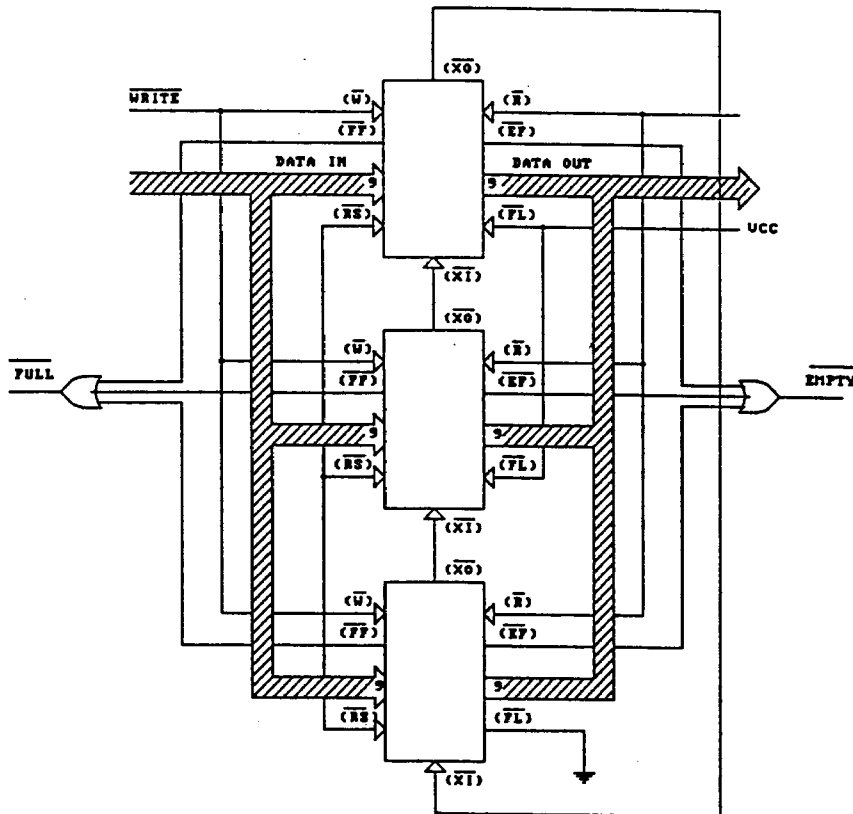

Figure 3. Block Diagram using FIFO's in Depth Expansion Mode
- The first device of the Daisy Chain is established by grounding the First Load (FL) control pin.
- The Expansion Out Pin ( $\overline{\text{XO}}$ ) of each device must be connected to the Expansion In Pin ( $\overline{\text{XI}}$ ) of the next device. (Figure 3)